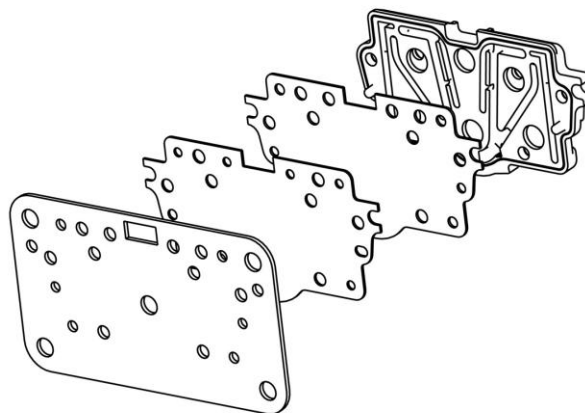

Figure 10
17. When reinstalling the metering plate on the secondary side of Model 4160™ carbs, the contoured gasket is placed on the plate first. Then, the thin metal shim plate is placed on top of the contoured gasket. Finally these three pieces are placed on the large rectangular gasket (Fig. 10), and the four piece sandwich is then placed on the main body, and the six main body clutch-head screws are tightened. Gold, Silver, Sports Claw, and Demon™ carburetors, along with HOLLEY® model 4150™ carbs, which are fitted with a secondary metering block, are assembled in the same fashion as the primary metering block.